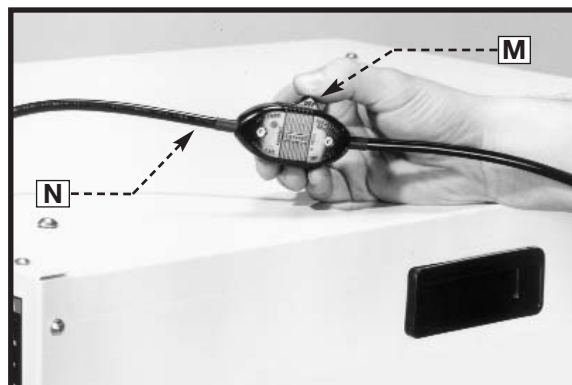

Fig. 7
The Air Cleaner is equipped with an in-line rocker switch (M) Fig.7, located on the power cord (N). To start or stop the motor, press downward on the rocker switch, according to the markings on the side. When you are finished with the air cleaner, turn the switch off rather than unplug the unit.